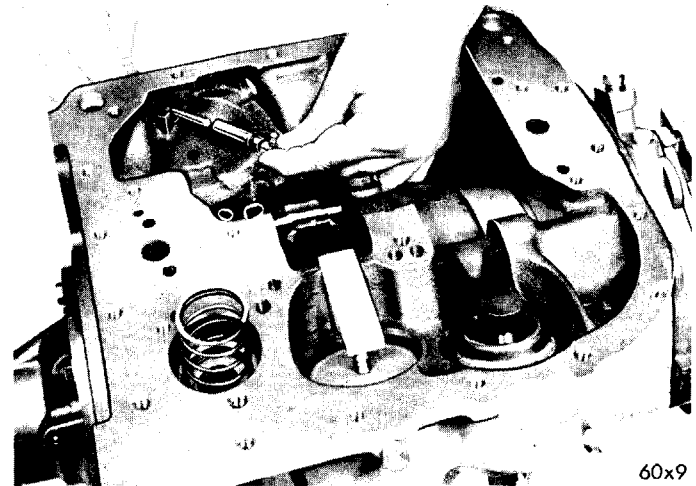

Fig. 91—Installing Cable Adapter
(1) Check mating surfaces of valve body assembly for cleanliness. Place manual lever in the reverse position (all the way in).
(2) Using a suitable guide, such as a piece of welding rod, inserted through the push button cable opening in the transmission case, slide the cable adapter over the end of the guide, as shown in Figure 91, with